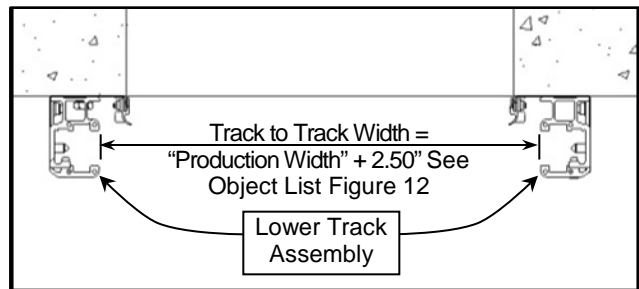

Figure 63
6. Check & confirm the alignment between the Upper & Lower track assemblies are plum, level, square, and true. Also check the Track to Track width as given in the Object List. The width between the track assemblies must be maintained at all points. Adjust as necessary. (See Figure 12 and Figure 63)